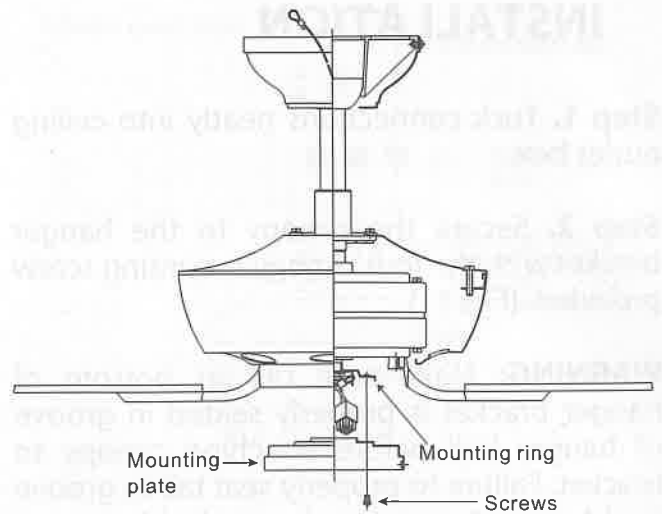

Figure 13
2. Place the key holes on the mounting plate over the 2 screws previously loosened from the mounting ring, turn mounting plate until it locks in place at the narrow section of the key holes. Secure by tightening the 2 screws previously loosened and the one previously removed. (Fig. 13)